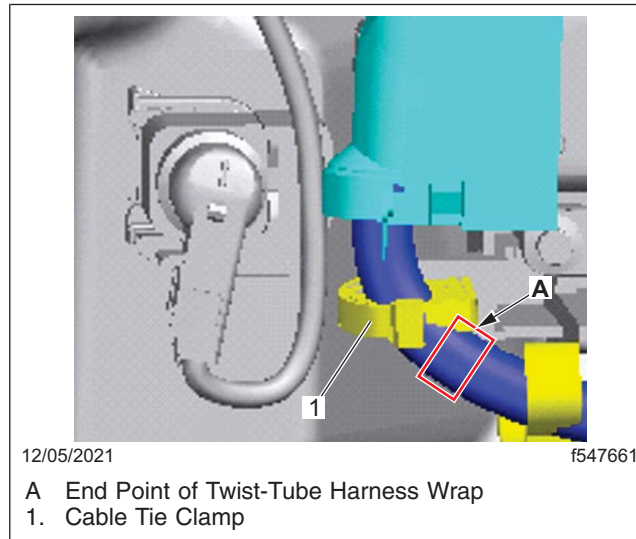

Fig. 4, Securing the Harness Clipping Point at the TCU Connector
- 7.2 Secure the harness clipping point next to the TCU connector using a cable tie clamp, as shown in Fig. 4.